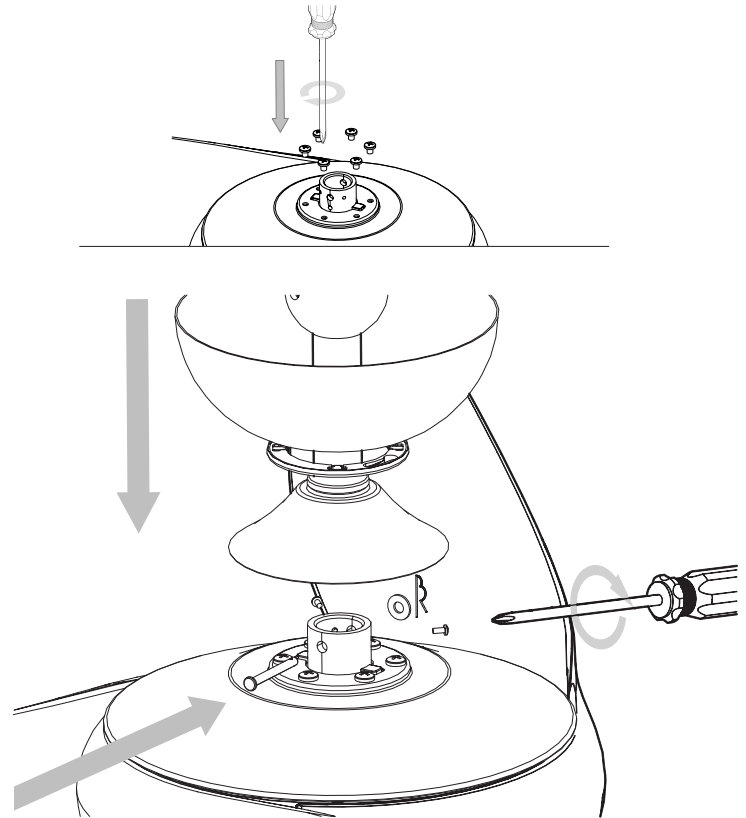

FIG.8
Assemble upper housing to motor assembly using the 6 screws provided (**FIG. 8**).
3. Install canopy screw ring as shown (Fig. 8).